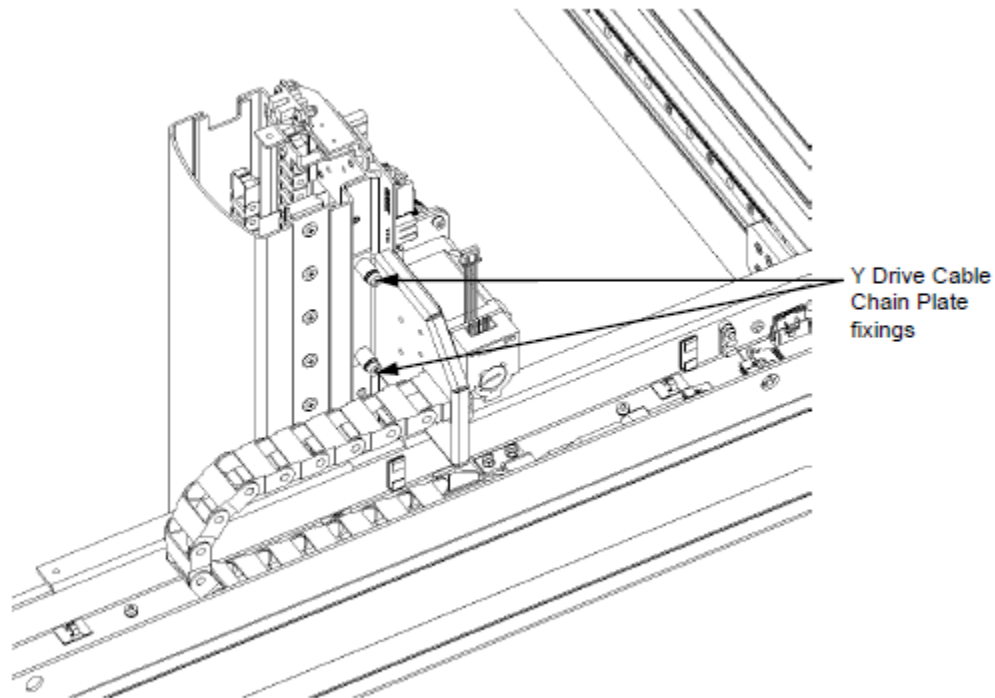

Figure Z-10: Removing the Y Drive Chain Plate
11. Remove the Y Drive Cable Chain Plate to the side of the Z Drive as shown in Figure Z-10.